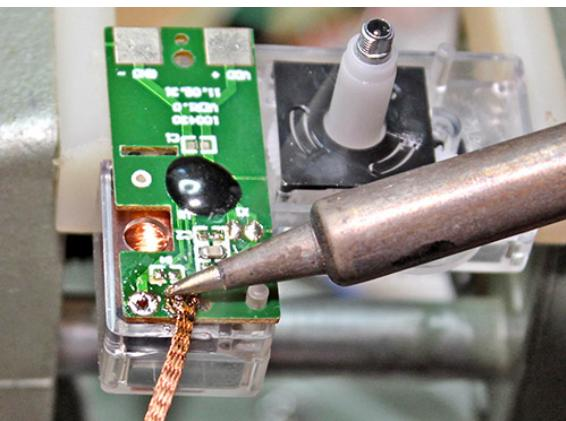

Fig. 12: Removing solder with desoldering braid.
- If you're using desoldering braid, place it on the solder around one terminal, then heat the braid with your soldering iron. The hot braid will melt the solder and wick it away from the terminal; see **Fig. 12**. Work quickly to avoid melting the plastic that holds the terminals beneath the PCB.